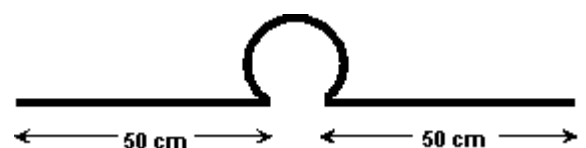

Figure 2. Counterpoises
1. Take Dielectric plate (1) and install Vibrator (2) on the plate. Use clamps or hard wire for this.
2. Install Tinned plate (4) on the Dielectric plate. Use Stud, washers, screw - nuts (6).
3. Do Matching spool (3). The spool has 9 turns of 1.5...2.5-mm diameter (# 14- 10 AWG) copper or silvered plate wire. ID of the spool is 15...18-mm, RA1TW use to old markers as a form for the spools. Length of the spool is 34-mm.
5. Do counterpoises. Two 105-cm lengths of copper or aluminum wire of 4...6-mm (# 2...6 AWG) are bended as a Greek letter OMEGA looks (see Figure 2).